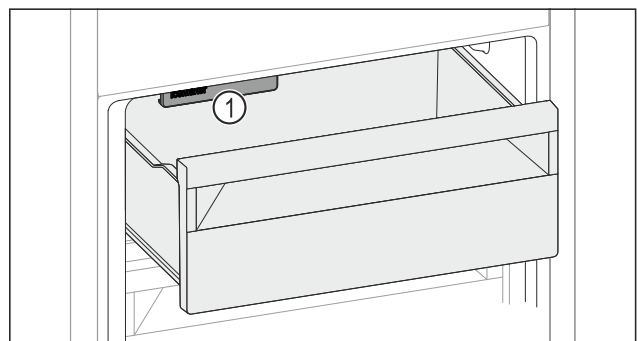

Fig. 114
- ▶ Pay attention to the IceMaker *Fig. 114 (1)*.